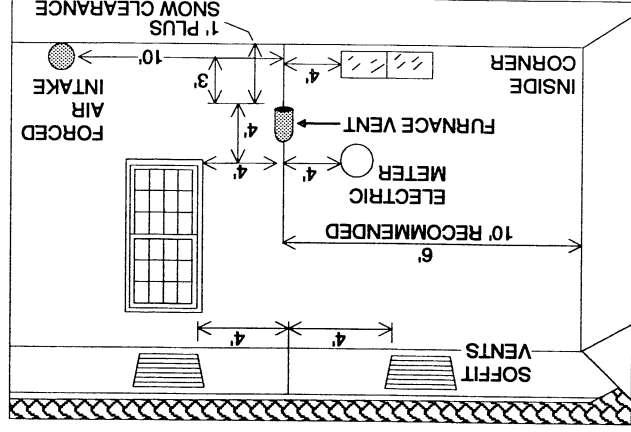

FIGURE 15 - VENT TERMINAL CLEARANCES (1-PIPE SYSTEM) - U.S. ONLY
1. Comply with all clearance requirements as shown in Figure 15.
- The vent must be installed with the following minimum clearances (Figure 15), and complying with local codes or utility requirements or other authority having jurisdiction.
The vent pipe termination must be installed within the allowable locations shown in Figure 15 and Section 7.8 in the National Fuel Gas Code, ANSI Z223.1 (current edition). Follow all local agency and utility requirements if more restrictive than those shown. Vent termination must be as shown in Figures 16-18.